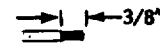

Figure 5
7. Strip insulation off of white wire on new switch, leaving 3/8" bare wire exposed at the wire end (see Figure 5).